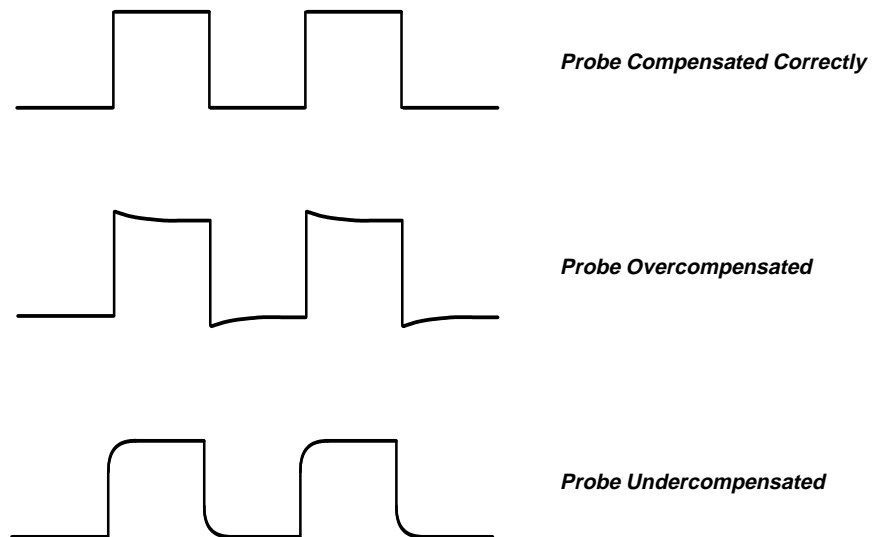
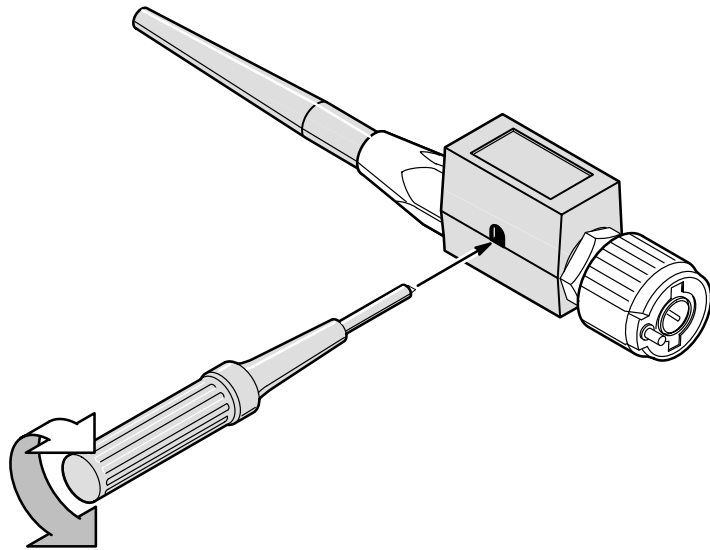

Figure 3-37: How Probe Compensation Affects Signals
Figure 3-38: P6139A Probe Adjustment
Passive probes require compensation to ensure maximum distortion-free input to the oscilloscope and to avoid high frequency amplitude errors (see Figure 3-37).
8. Adjust the probe until you see a perfectly flat top square wave (see Figure 3-37) on the display. Figure 3-38 shows where the adjustment is located.